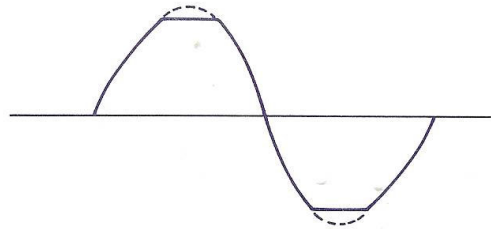

Fig. 2
- Gradually increase the output of the audio oscillator until the wave form on the oscilloscope (see Fig. 2) begins to be clipped. Adjust the left channel potentiometer VR-201 (100 K $\Omega$ ) and the right channel VR-201 (100 K $\Omega$ ) so that both upper and lower peaks of the wave forms begin to be clipped simultaneously at the same point of the curve.
- Gradually increase the output of audio oscillator, which is connected to AUX terminals, until the wave form on the Oscilloscope (see Fig. 2) begins to be clipped.